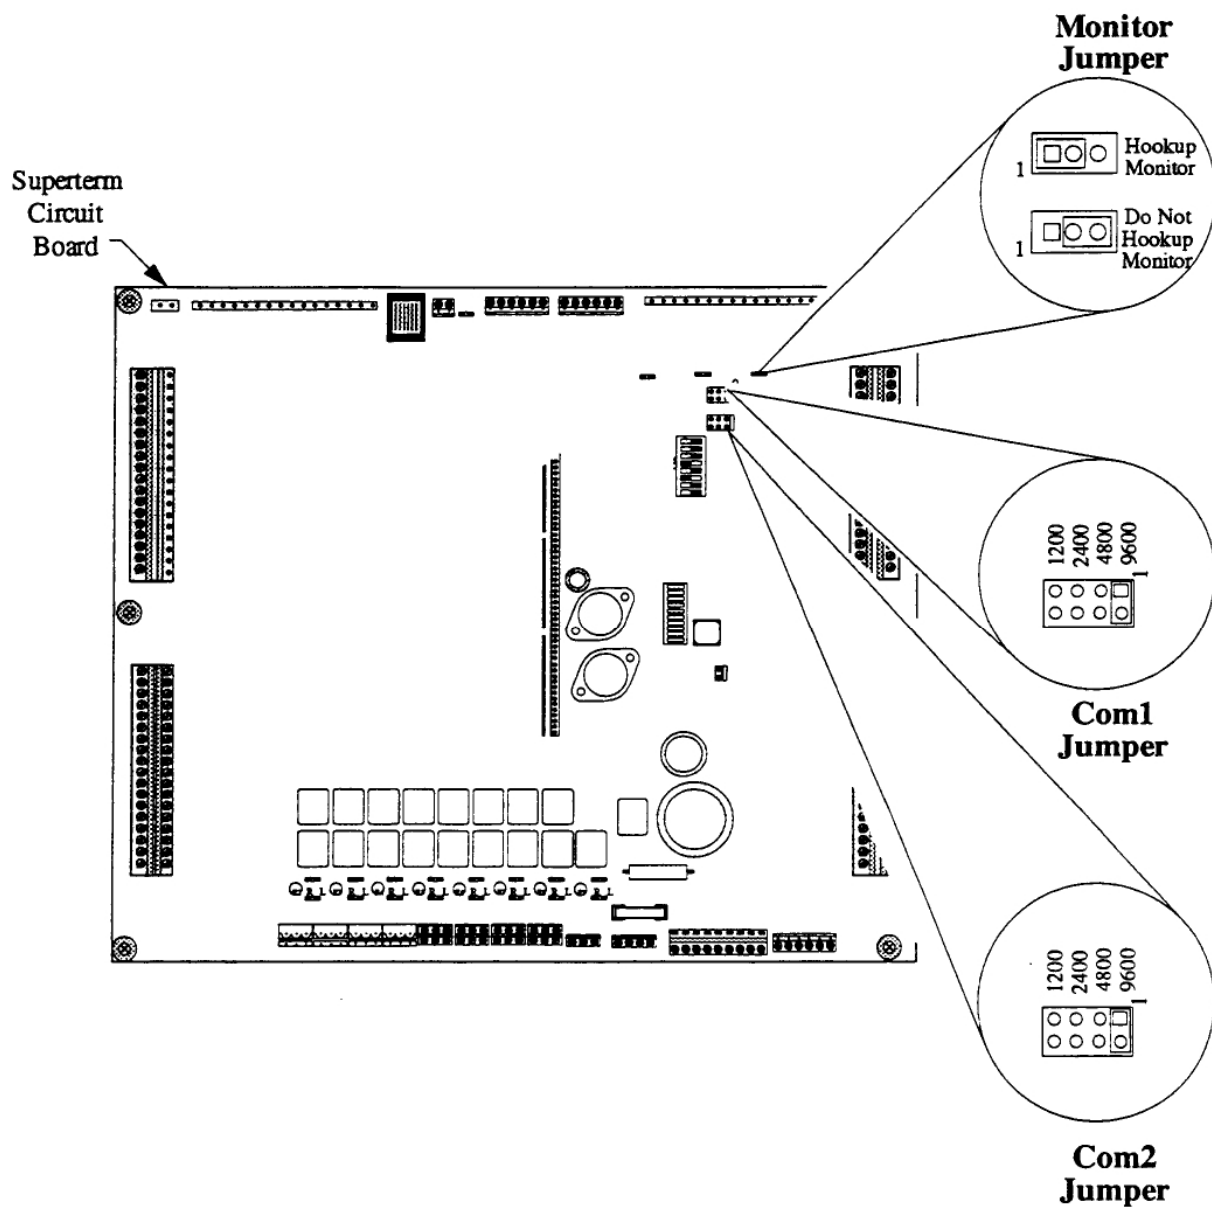

Figure 47 - COM1, COM2, and MONITOR Jumper Locations and Settings
- Set the COM1 jumper to contact the two posts adjacent to the desired baud rate (see Figure 47).
Set the COM2 jumper to contact the two posts adjacent to the desired baud rate (see Figure 47).
- Set the jumper to contact the center post (pin 2) and the left hand post (pin 1) (see Figure 47).
- Set the jumper to contact the center post (pin 2) and the right-hand post (pin 3) (see Figure 47).